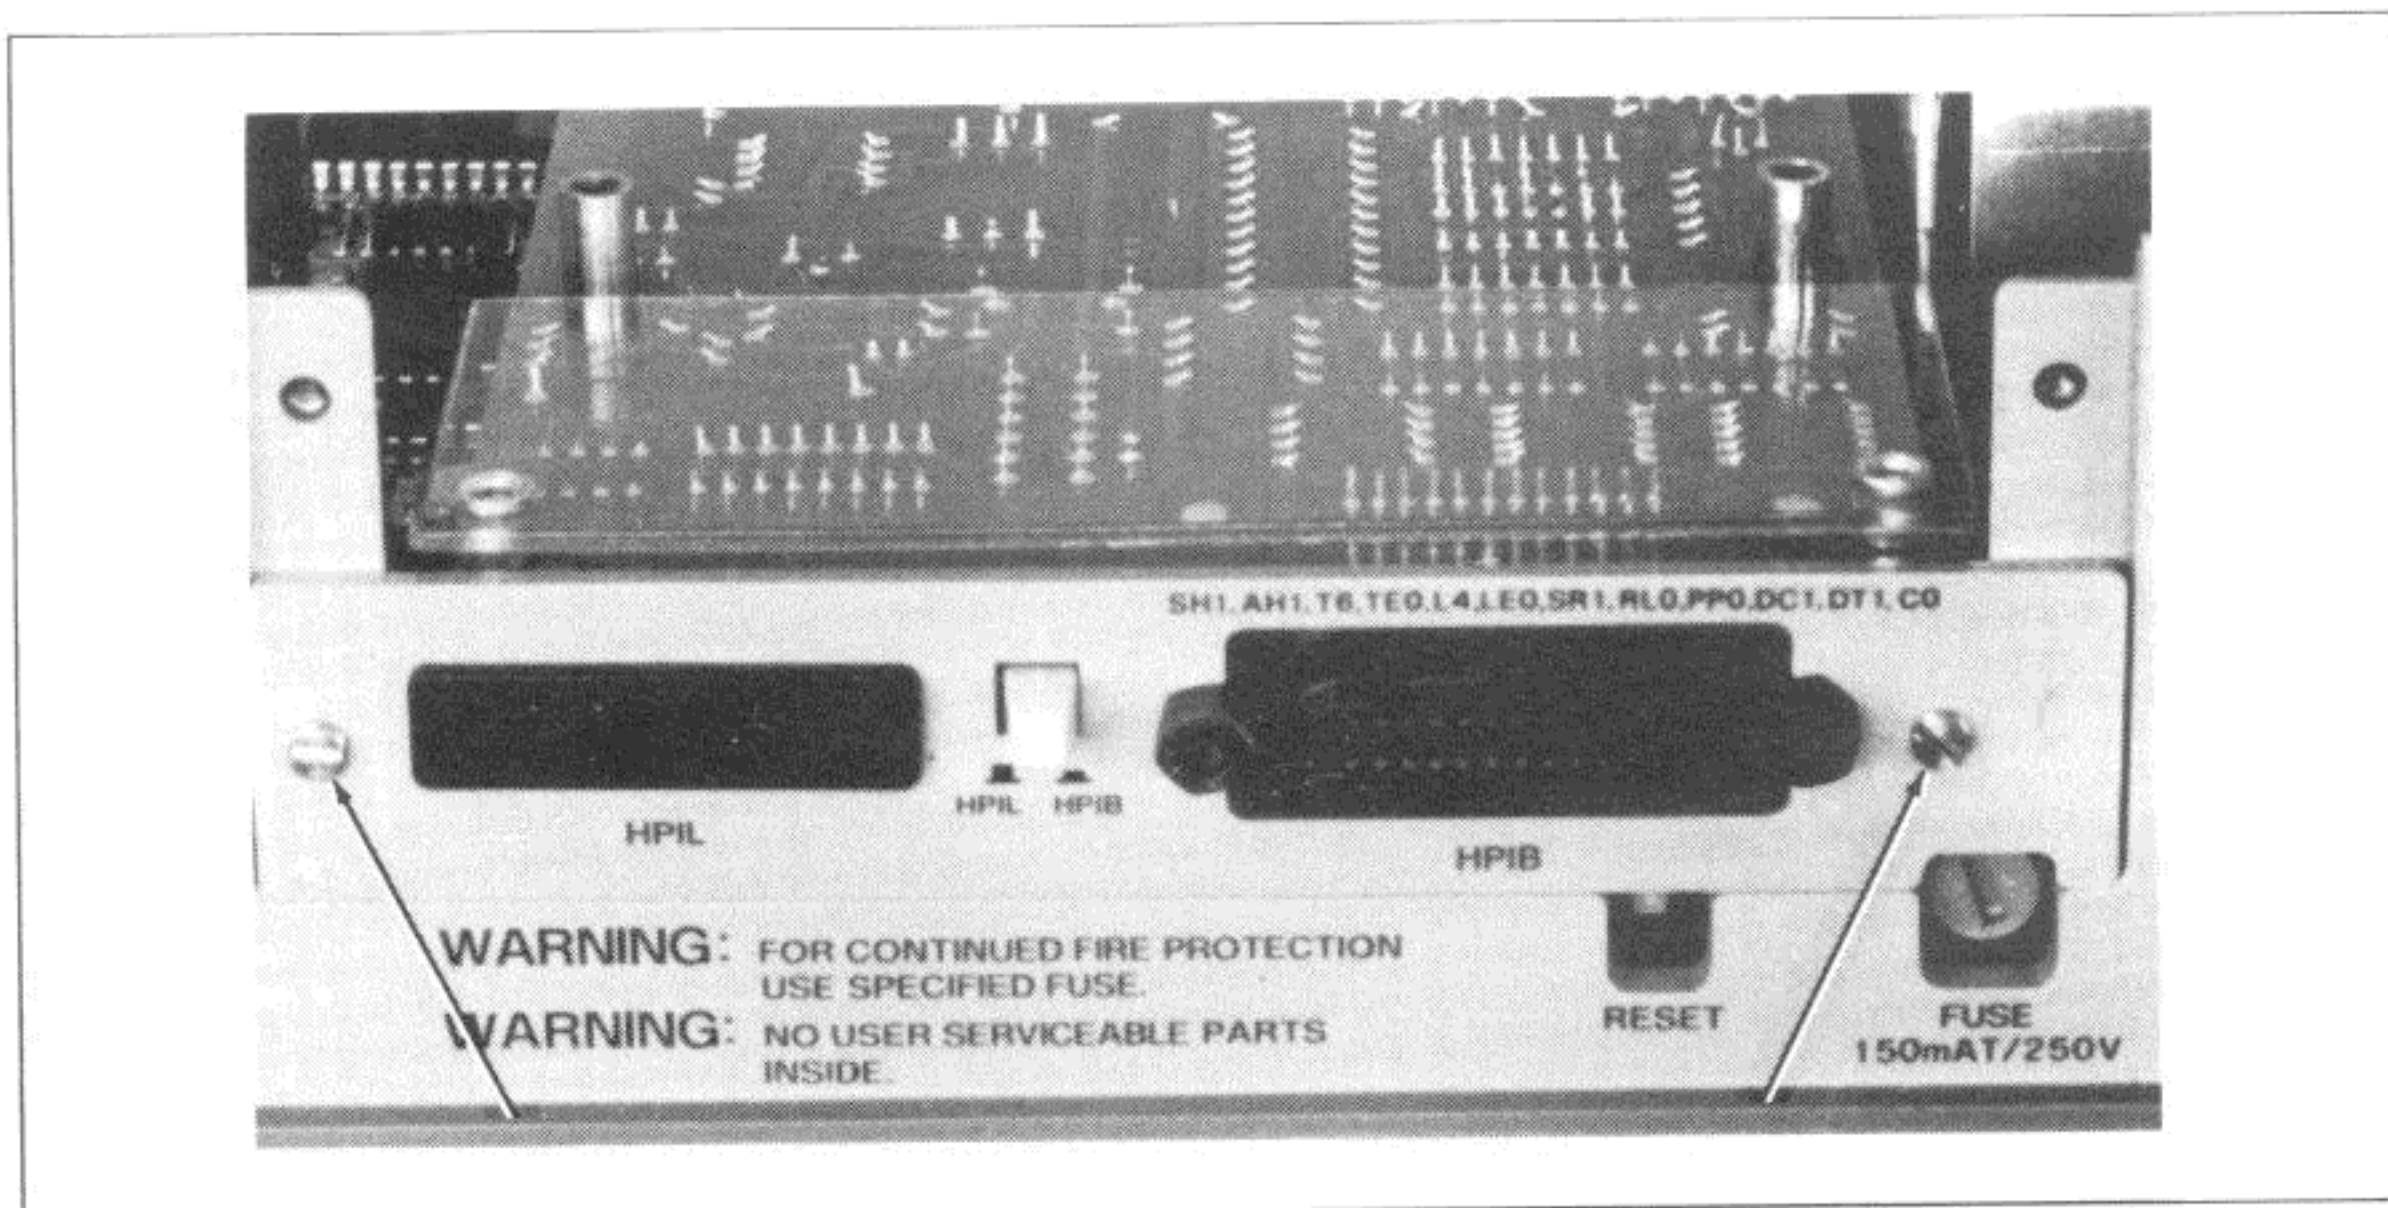

Figure 1-8-10. Removing Rear Panel Screws from HP-IB Connector
1. Remove the HP-IB rear panel as shown in Figure 1-8-10. It is not necessary to disconnect the HP-IB connector from the rear panel.